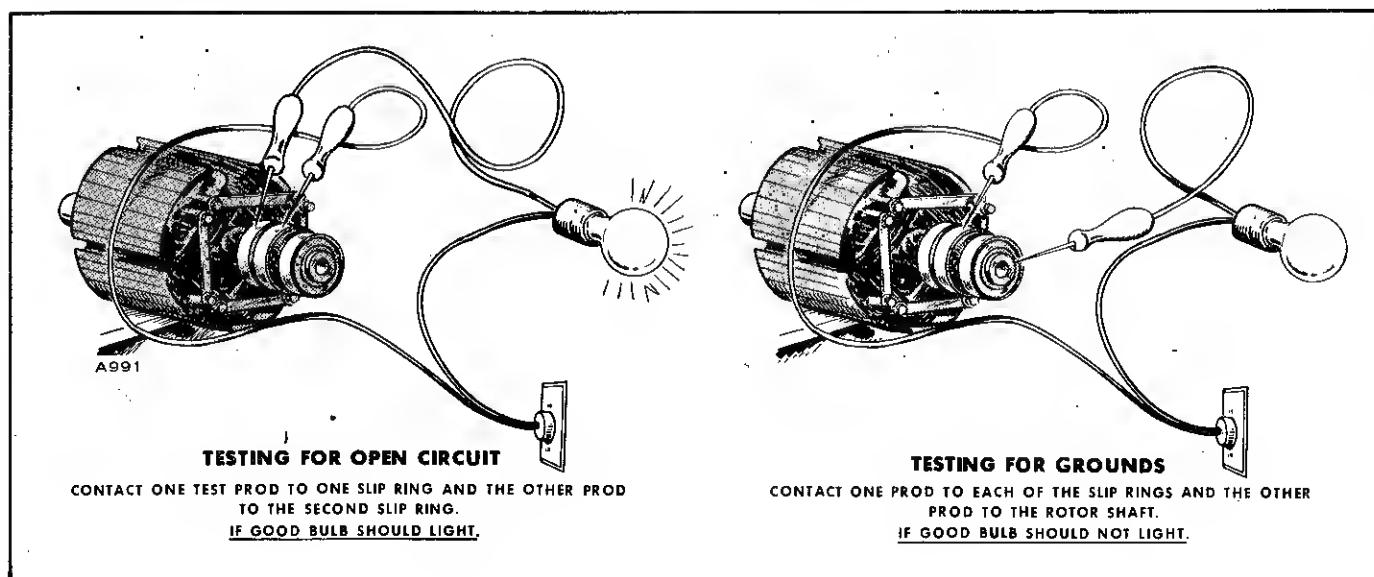

FIGURE 82. 120 VOLT AC TEST LAMP
- Test for a short or open circuit in rotor winding, by measuring resistance of winding. It should measure between 3.5 and 4.8 ohms for the JB and between 2 and 3 ohms for the JC (at 70°F). If an accurate ohmmeter isn't available, check the rotor for open circuit or grounding with an AC test lamp (Fig. 82). Replace the rotor if it is grounded, or has an open circuit or short.